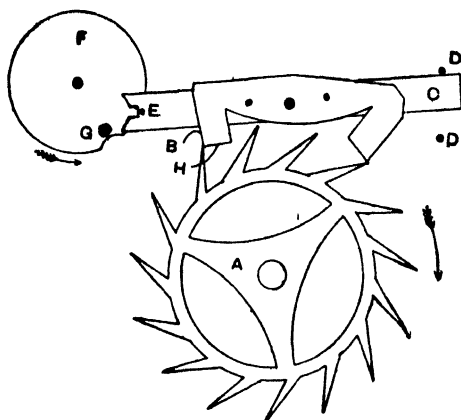

Fig. 56.—Action of English Lever Escapement (straight-tooth wheel)
**Action of Lever Escapement.**—In the typical English lever escapement shown by Fig. 56, the escape wheel **A** has fifteen teeth, and rotates in the direction shown by the arrow; one tooth is shown resting on the locking face **B** of one pallet. In this position the escape wheel cannot move. The lever **C** is also motionless, resting against one of the banking pins **D**. If accidentally shaken while in this position, the guard pin **E** in the lever would come in contact with the edge of the roller **F**, and the lever could not move sufficiently to allow the escape wheel to go forward. This is the position the lever assumes between each beat of the watch. The balance and roller, in returning under the influence of the hairspring in the direction of the arrow, will cause the ruby pin **G** to enter the lever notch and carry the lever across. In so doing, as soon as the lever has been carried a little way, the escape wheel tooth is unlocked and goes forward across the impulse face **H** of the pallet. The motion of the lever is thus accelerated, and an impulse is delivered to the ruby impulse pin and balance. This continues until the tooth drops off the pallet face and another tooth falls upon